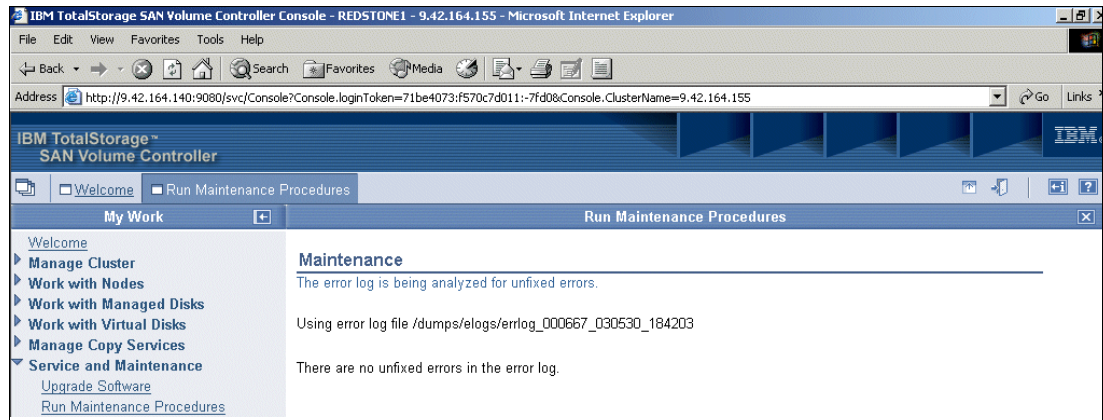

Figure 9-84 Maintenance procedures: Starting the analysis
3. The log file (existing or newly generated) is scanned for unfixed errors. This task may return a list of unfixed errors (for example, things that require administrative intervention). Or, as in our case, it shows a message indicating that there are no unfixed errors in the cluster. See Figure 9-84.